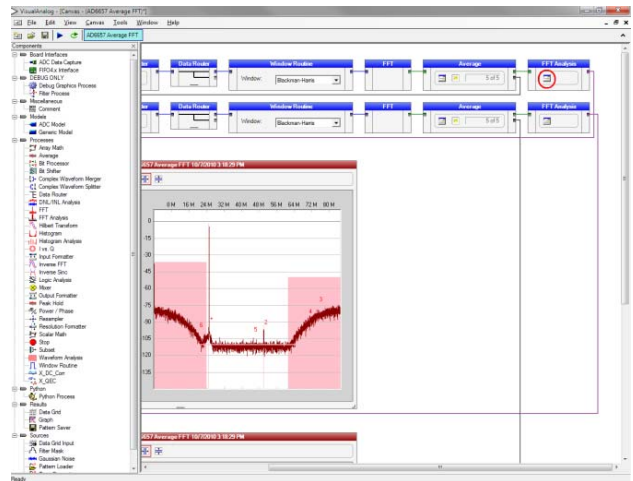

Figure 16. VisualAnalog – [Canvas – (AD6657 FFT)*] Main Window – Showing AD6657 Average FFT Analysis
6. Click on the button circled in the FFT Analysis box (see Figure 16) in Visual Analog to bring up the options for setting the NSR.